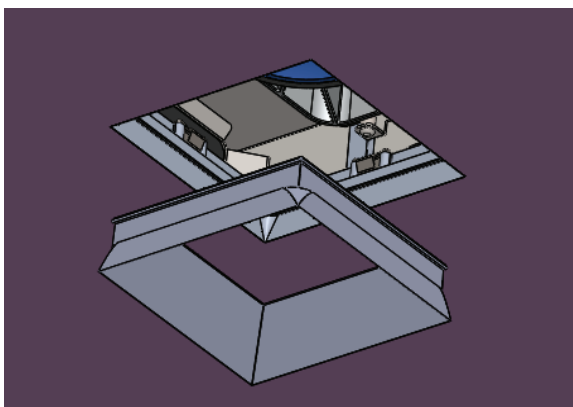

fig. 16
- a. Press the flangeless trim into the trim retainer (see fig. 16).